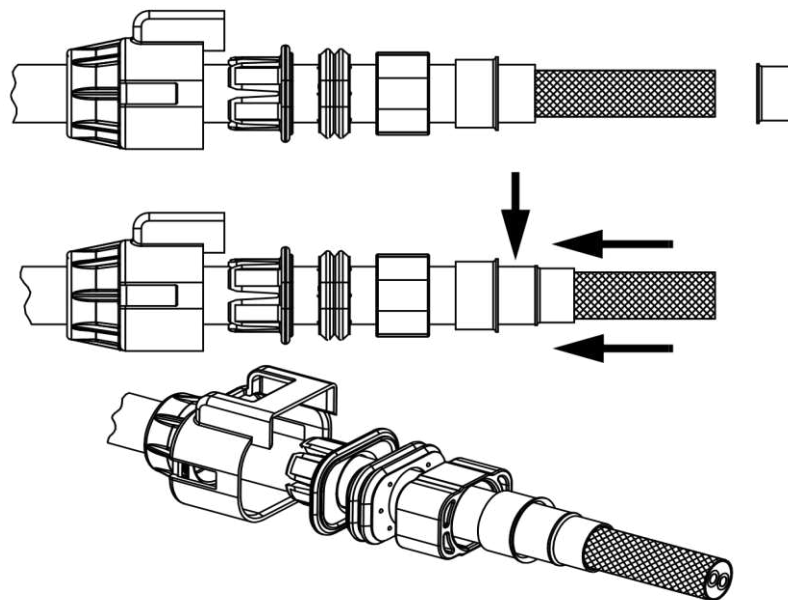

Figure 5
- 3.6.3.** Insert the inner ferrule over the cable shield until it stops against the outer jacket as shown in Figure 5.